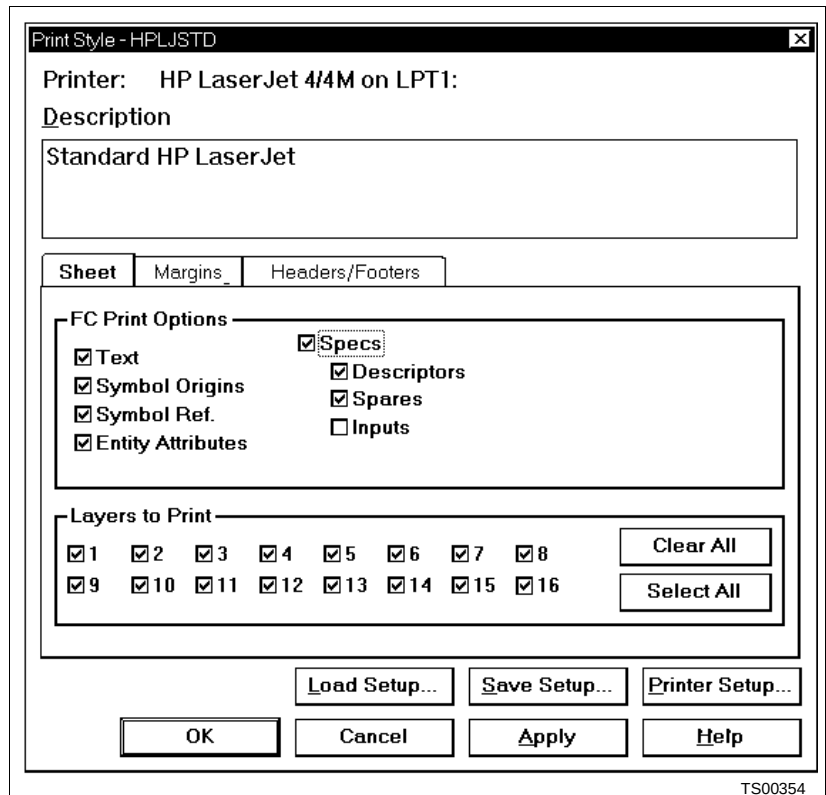

Figure 11-1. Print Style
2. The *Style Setup* dialog box appears as shown in Figure 11-1. The current print style options are displayed. It has three pages. The *Sheet* page appears initially; the other pages can be accessed by clicking on the respective tab.